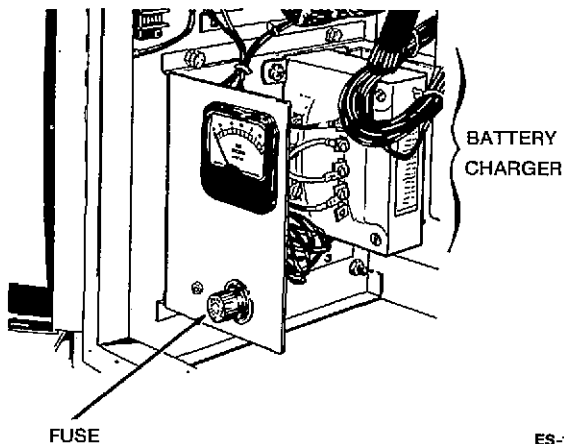

FIGURE 10. BATTERY CHARGER
4. Use a small screwdriver with insulated shank to turn the adjustment potentiometer (located behind charger panel-see Figure 10) counterclockwise to increase float voltage and clockwise to decrease float voltage. Adjust in small steps and wait five minutes for the voltage to stabilize before making additional adjustments.
1. Open the transfer switch cabinet door and observe the charging rate on the battery charger ammeter (see Figure 10).